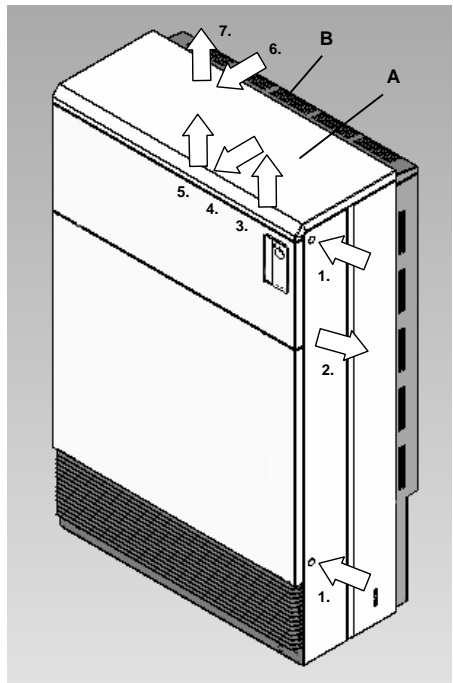

Fig.2 Opening the heater
- Opening the heater (Fig.2):
3. Lift the top panel (A) approx. 10mm.
6. Pull the rear top panel (B) forwards.